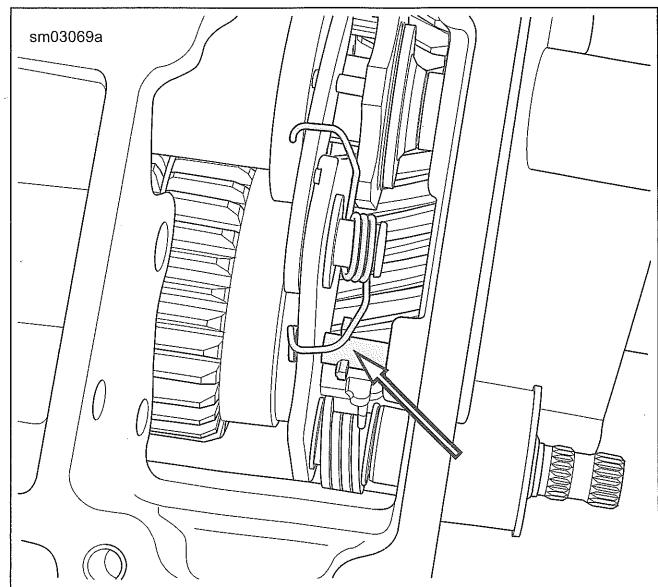

Figure 5-83. Shifter Shaft Lever Spring
5. See Figure 5-83. Verify that pin of screw sits inside shifter shaft lever spring.